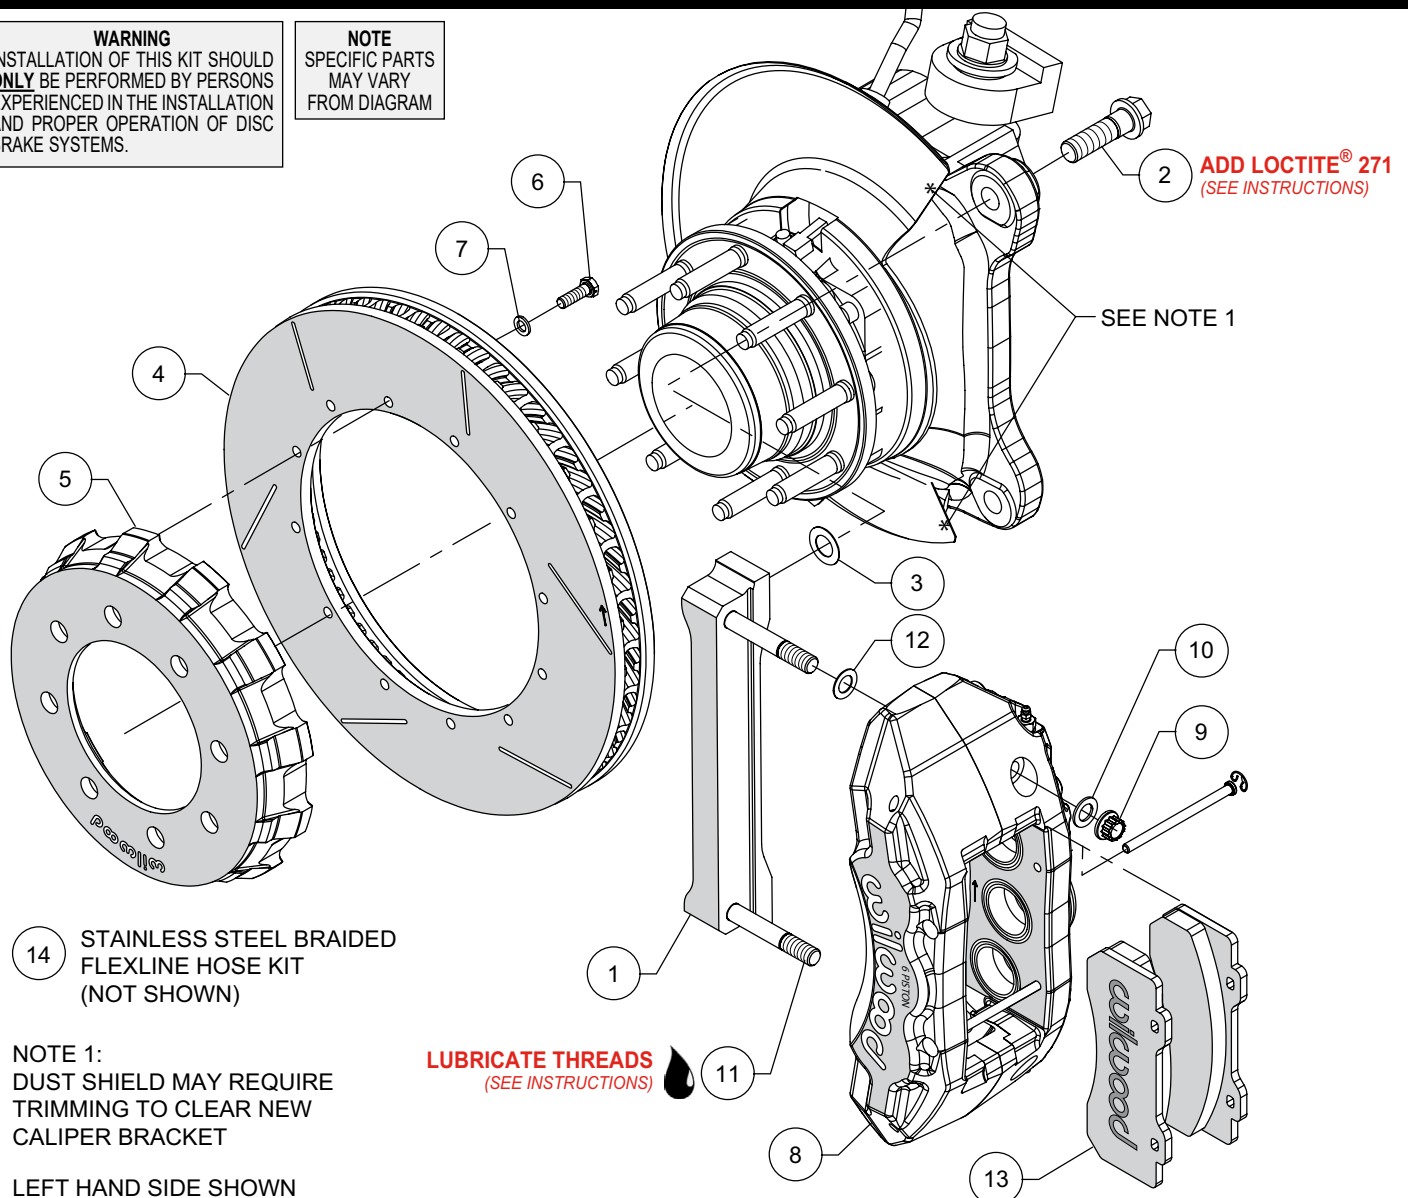
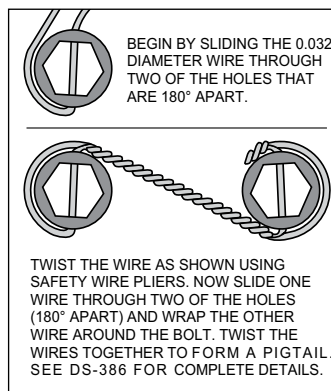

Figure 1. Typical Installation Configuration
Figure 3. Safety Wire Diagram
Numbers in parenthesis refer to the parts list and Figure 1 on the preceding pages.
- The caliper mount bracket (1) should initially be installed with clean, dry threads on the mounting bolts. Orient the bracket as shown in Figure 1 and Photo 1, and install using bolts (2). Initially place one .024 thick shim (3) on each bolt between the bracket and upright, Figure 1. Temporarily tighten the mounting bolts. **NOTE:** The bracket must fit squarely against the mount bosses on the upright. Inspect for interference from casting irregularities, machining ridges, burrs, etc. as well as the dust shield which may need to be trimmed just a little. Later, after the caliper alignment has been checked, the mount bolts will be torqued to specification.
- Orient the rotor (4) and the hat (5) as shown in Figure 1 and Photo 2. Attach rotor to hat using bolts (6) and washers (7). Using an alternating sequence, torque to 25 ft-lbs. For an added measure of security, the bolts may be safety wired using standard 0.032 inch diameter stainless steel safety wire as shown in Figure 3. Please refer to Wilwood's data sheet DS-386 (available at [www.wilwood.com/Pdf/DataSheets/ds386.pdf](http://www.wilwood.com/Pdf/DataSheets/ds386.pdf)) for complete safety wire installation instructions.
- NOTE:** This kit contains distinct right and left hand calipers that must be mounted in a specific direction, as described below. Lubricate the caliper mounting studs (11) with lightweight oil. Initially place one .032" thick shim (12) on each stud as shown in Figure 1 and Photo 3. Mount the caliper (8) onto the bracket (1) using lock nuts (9) and washers (10), Figure 1. Ensure that the caliper is mounted so that the largest pistons are at the rotor exit end of the caliper, in relation to the direction of rotor rotation. Temporarily tighten the lock nuts and view the rotor through the top opening of the caliper. The rotor should be centered in the caliper, Photo 4. If not, adjust by adding or subtracting shims (3) between the bracket and the upright. Always use the same amount of shims on each of the two mounting bolts. Once the caliper alignment is correct, torque bolts (2) to 120 ft-lb.
- Remove the two pad retaining pins from the caliper by carefully popping out the pin retaining clips and sliding out the pins. Insert the brake pads (13) into the caliper, with the friction material facing the rotor, as shown in Photo 5 and secure the brake pads in place with the pad retaining pins and clips, Photo 6. Check that the top of the brake pad is flush with the outside diameter of the rotor, Photo 7. If not, adjust by adding or subtracting shims (12) between the caliper and the bracket. After the caliper pad height is set, torque the caliper lock nuts (9) to 65 ft-lb.